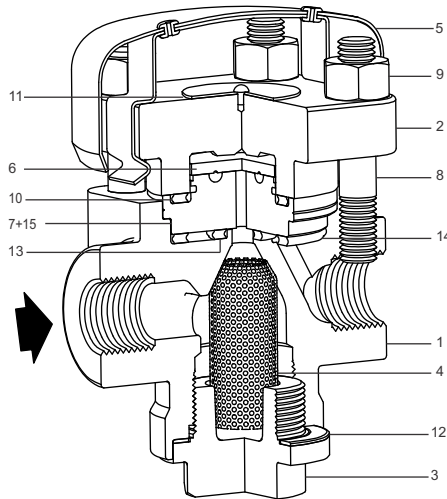

Figure 1 : Forbes Marshall Thermodynamic Trap
4.1 Operation of Forbes Marshall Thermodynamic Trap [FMTD76-M]:[Refer figure 1]
7.4. Procedure to service the trap: [Refer figure 1]